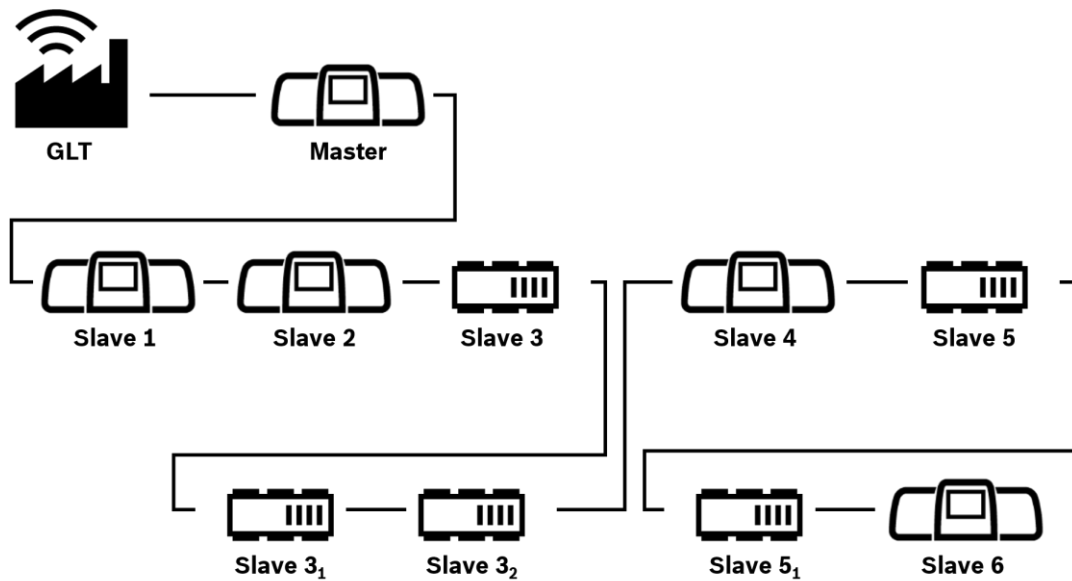

Figure 2-7: Exemplary installation of a network
- Another controller from the Logamatic 5000/Control 8000 controller series is always integrated as a substation (slave). It cannot be used as a segment substation (see Figure 2-7).